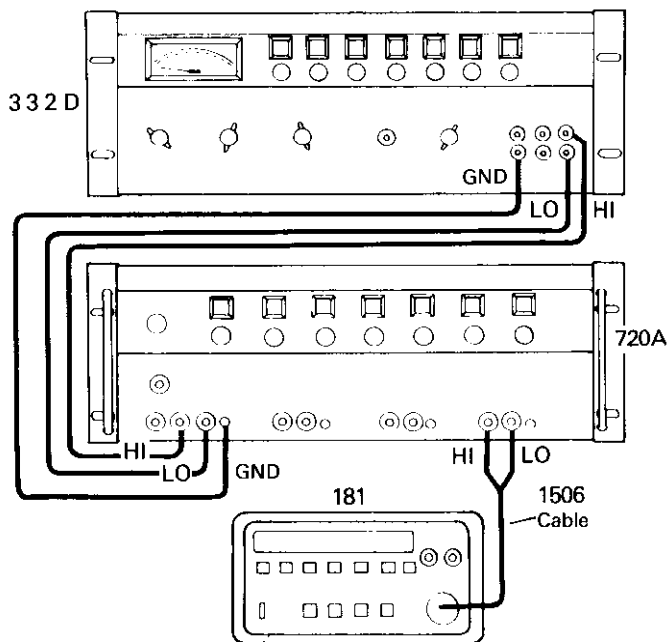

FIGURE 5-6. DC Calibrator, Kelvin-Varley Divider and 181
B. Connect the DC calibrator, Kelvin-Varley Voltage divider and 181 as shown in Figure 5-6.